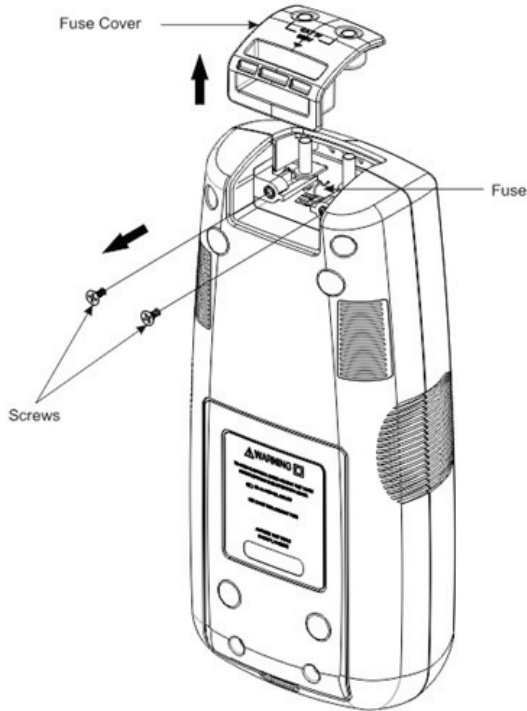

Figure 5.4: Transmitter fuse replacement
4. Remove the fuse cover by pulling it upwards as shown in figure 5.4.